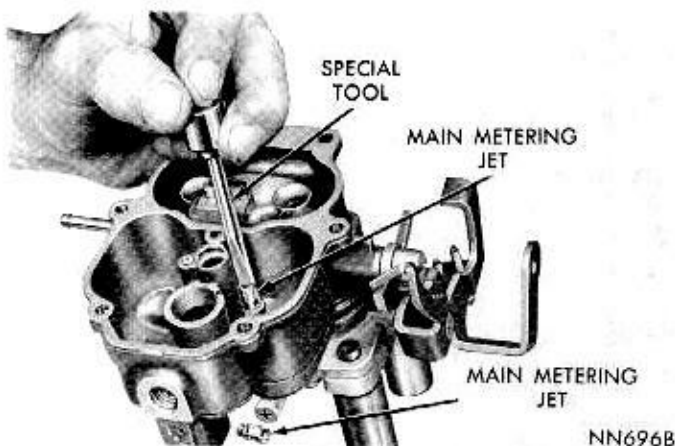

Fig. 6—Removing or Installing Main Metering Jets
(12) Remove main metering jets, (Fig. 6).